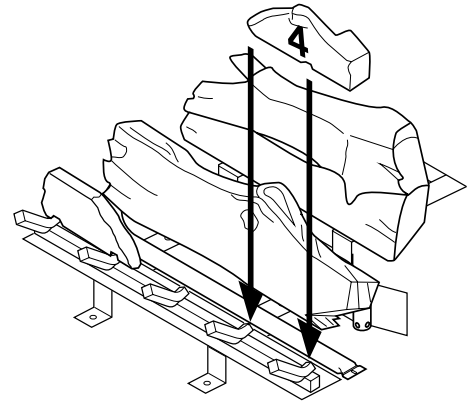

Figure 50 - Installing Log No. 4
5. Place log #4 (right piece) onto the front right part of the grate making sure the notches fit over the prong of the grate (see Figure 50).